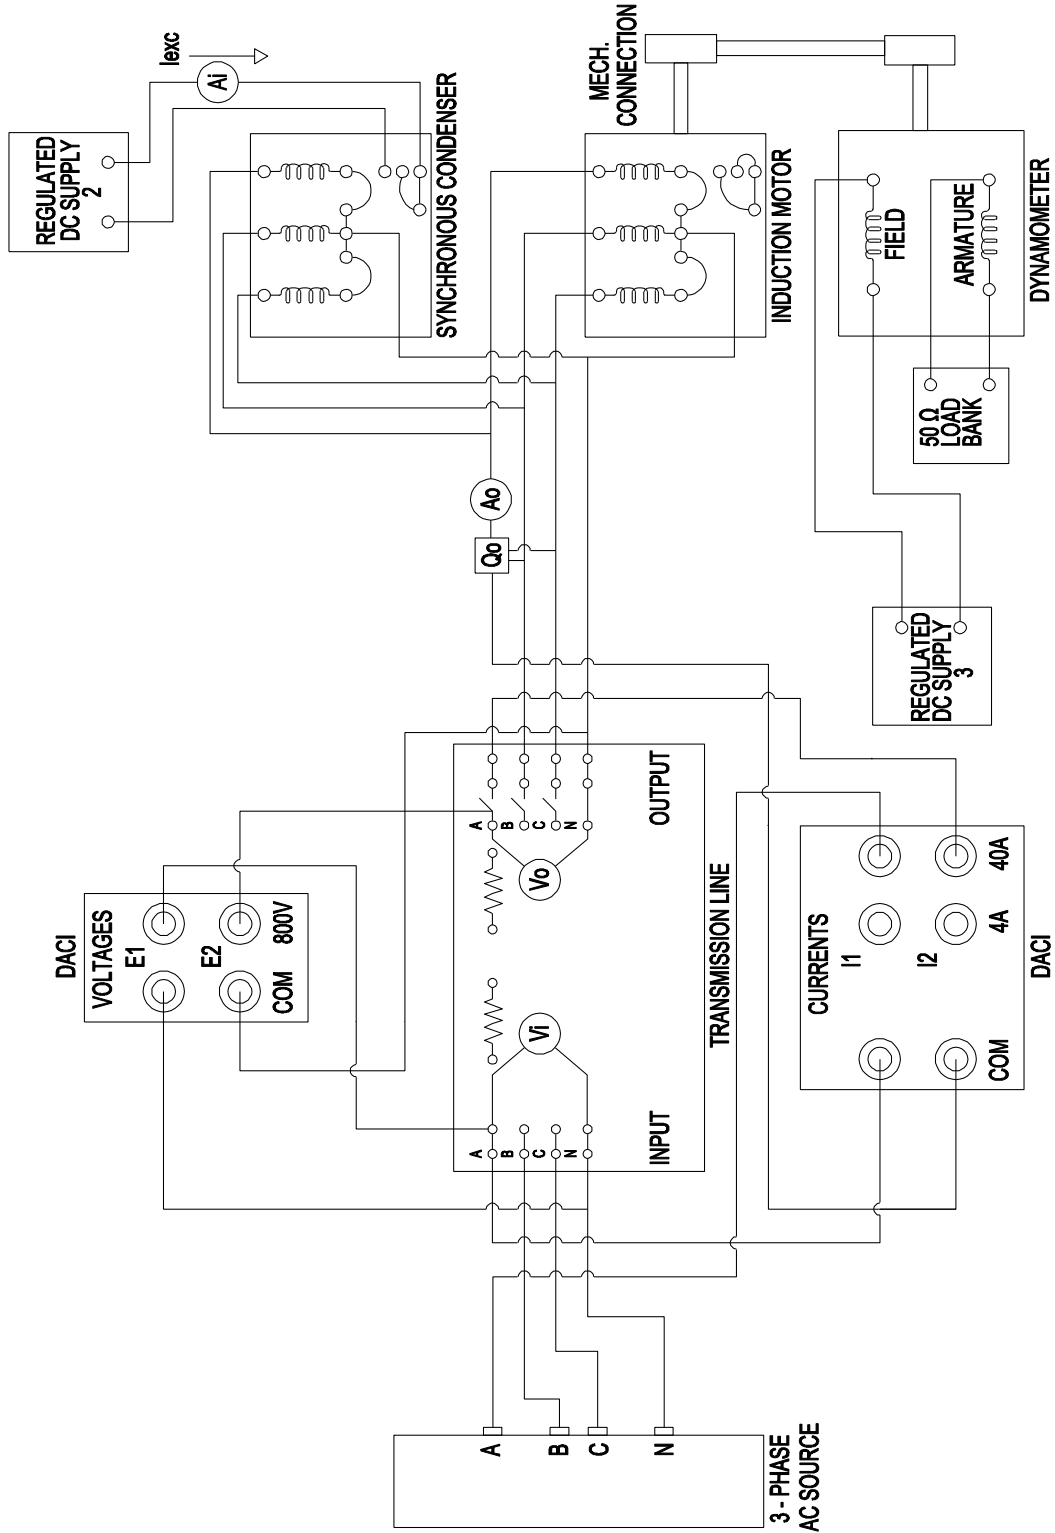

Figure 2: TEST CONNECTIONS
The laboratory set-up is made as shown in Figure 2. All meters are marked to indicate their function in the system. The Data Acquisition and Control Interface, DACI, is connected to read the **input voltage** on E1 and **input current** on I1 (40A), the **output voltage** on E2 and **output current** on I2 (40A). This permits measurement of input and output power factor angles and the angle between input and output voltages by merely using the metering instruments in the software LVDAC-EMS.
1. Connect the system shown in Figure 2. Connect the system exactly as shown. Failure to do so may preclude measurement of some quantities. Use Figure 3 to connect the analog watt-meter (device Q_o in Figure 2). Set all fluke ammeters (A_0 , A_1) to **manual 10A range** using the up and down buttons.